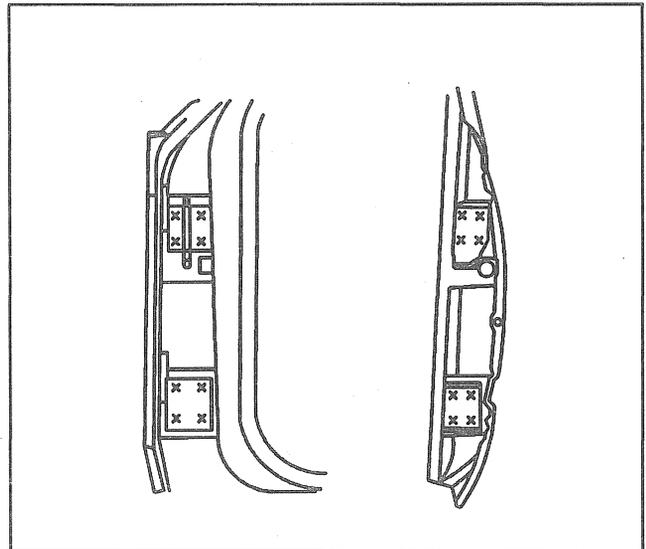

Figure 39—Spot Weld Locations
Remove or Disconnect (Figures 39 and 40)
- B. Center punch each of the weld marks on the original hinge (Figure 39). It is critical to punch the center of the weld so that the all of the weld is removed during drilling.
**Install or Connect (Figures 39 and 40)**